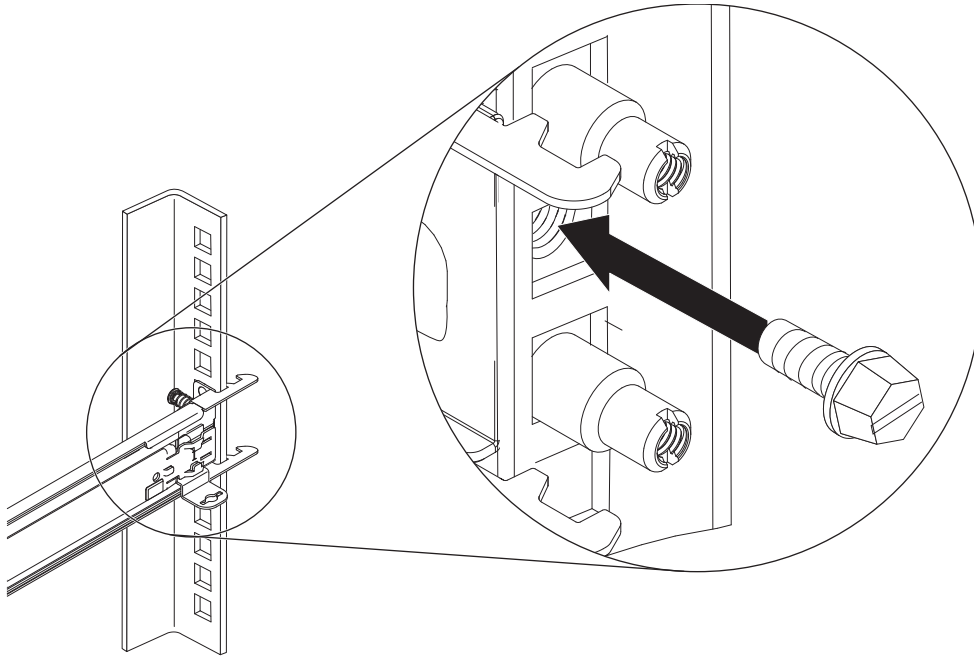

Figure 34. Securing the cable management arm and node for shipping
8. Optional: Secure the cable management arm and the node in the rack for shipping, as shown in Figure 34 on page 45.